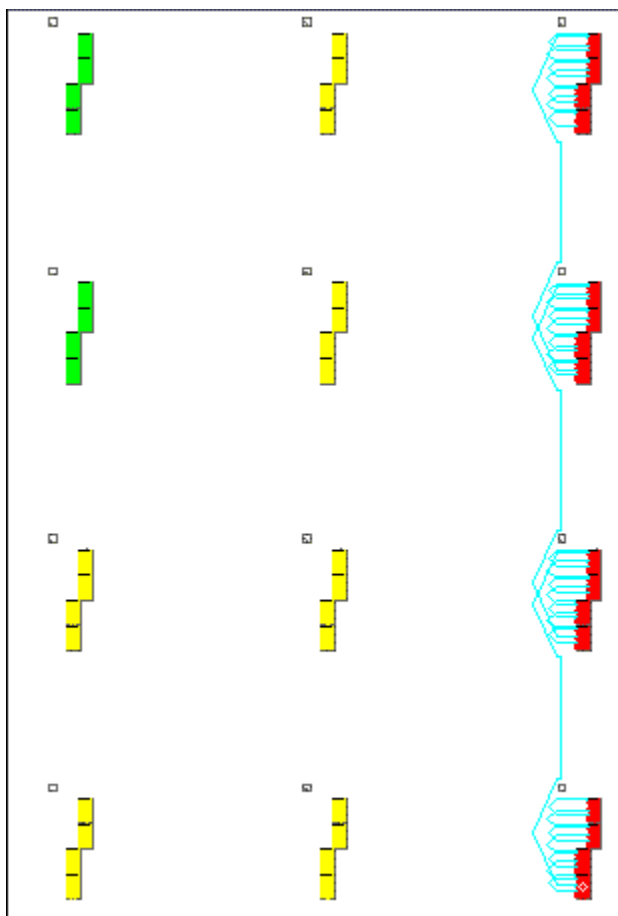

Figure 10: **Correct Placement of tap_dly Circuits**
6. If the tap delay circuit is properly constrained, the logic is located in a single column in four sequential Configurable Logic Block (CLBs). This will indicate the RLOC_ORIGIN is correct. Figure 10, page 108 is a screen capture showing an example of the correct placement of the tap_dly circuits.